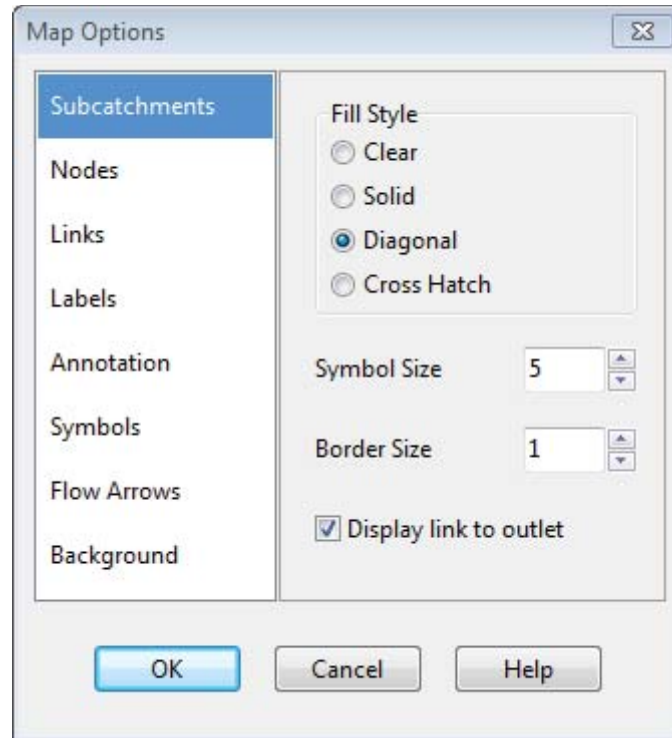

Figure 2-3 Map options dialog
1. Select **Tools >> Map Display Options** to bring up the Map Options dialog (see Figure 2-3).